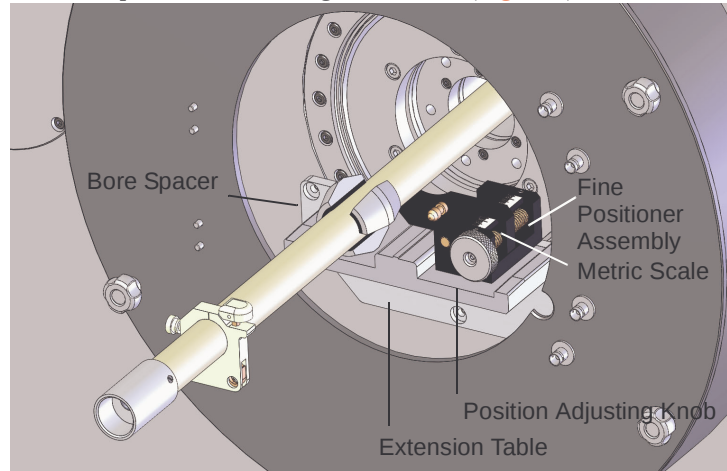

Figure 5. Swift-60 Positioner Insertion Into Gradient Bore
2. Insert the positioner into the gradient bore (Figure 5).